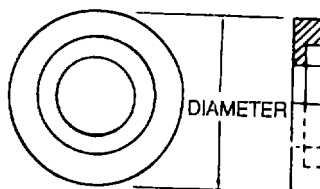

Figure 2-32. Taper Pin Washer
c. High Tensile Special Washers. Taper pin, high tensile, countersunk, and preload indicating special washers are identified in figures 2-32 through 2-35.
(1) Taper pin washers. Use a taper pin or dished washer, AN975, in conjunction with threaded taper pin, AN386 install washer under nut AN320 to effect adjustment where a plain washer would cause distortion.
(2) High tensile washers. Use a high tensile washer, MS20002, in conjunction with high tensile internal wrenching bolts, MS2004 through MS20018. A Type C washer is countersunk to seat the bolt head shank radius, and a plain type washer is used under the nut. Plain and countersunk washers, MS20002 and MS20002C, are heat-treated to 125,000 to 145,000 psi.
(3) High Tensile Countersunk washers. Countersunk washers, commonly called dimpled washers, are for use with 100-degree flat-head screws, or rivets, to provide reinforced, low-profile attachments in such locations as fillets and other fairing installations. Identify countersunk washers by part number. Examples: A3236-0.012 (No. 6 screw), A31350-0 017 (No. 8 screw), A3235-0.020 (No. 10 screw).